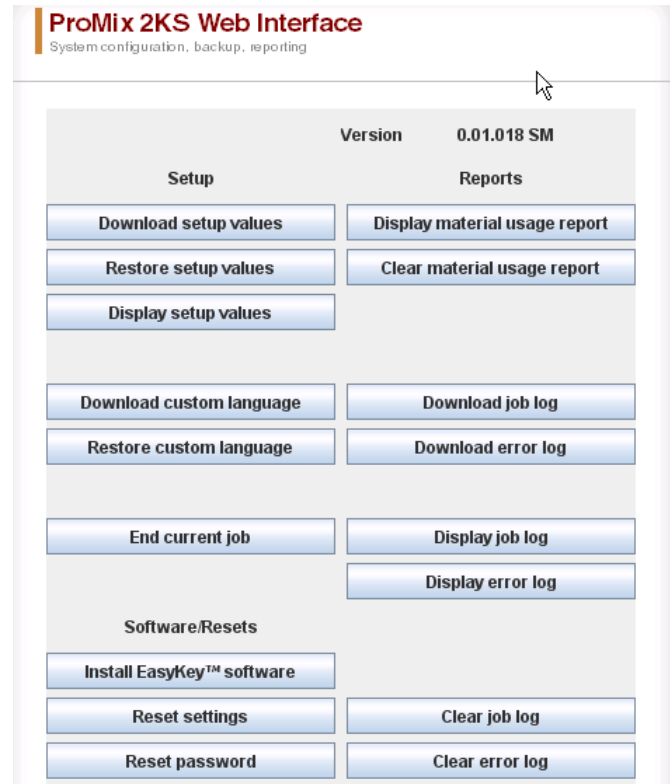

FIG. 7. Main BWI Screen
- Main software screen appears. See FIG. 7.
From the main BWI screen (see FIG. 7) the operator can select Setup, Software/Resets, or Reports.